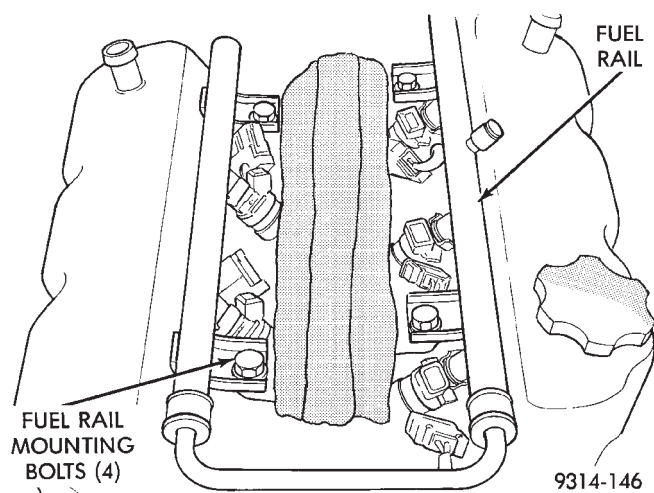

Fig. 17 Fuel Rail
(14) Rotate injectors toward center of engine. Tag the injector connectors with their cylinder number. Disconnect electrical connector from injectors.
(15) Remove fuel rail mounting bolts (Fig. 17).
(16) Lift fuel rail straight up, off of engine. Cover fuel injector openings in intake manifold.